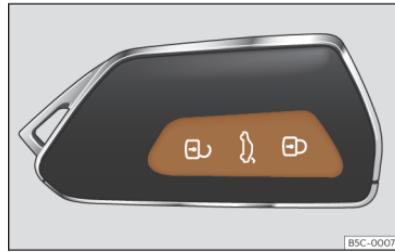

Fig. 70 Remote control key: keys.
- Lock: press the  button >>> Fig. 70.